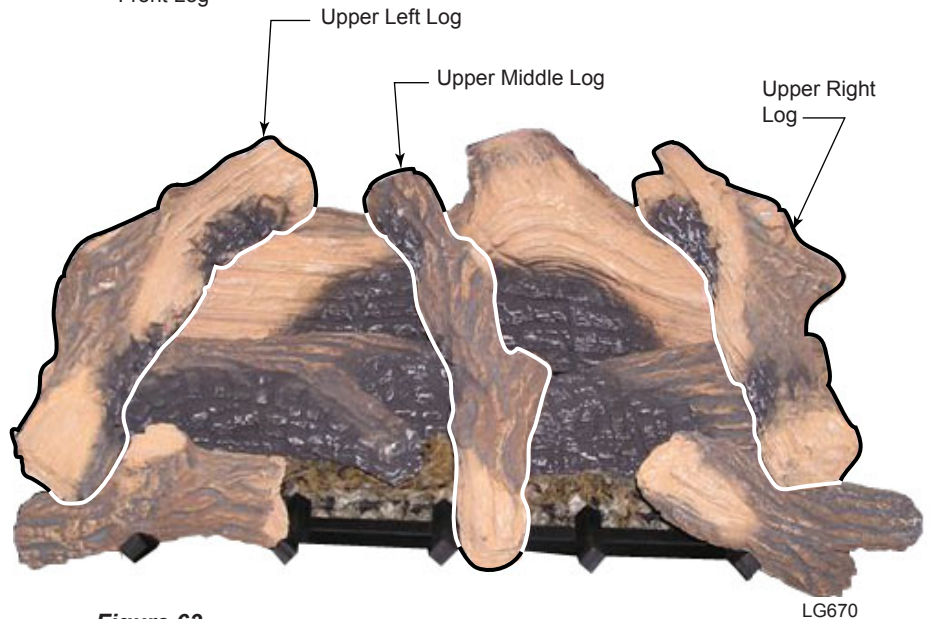

Figure 63 -
- Place the upper left log by matching the two protrusions on the rear and left middle logs with the notches on the bottom of the upper left log. *Figure 63*
- Place the upper middle log by matching the protrusions located at the middle of the rear log with the notch on the bottom of the log. Rest the front end of the log on the right side of the middle tong of the grate. *Figure 63*
- Place the upper right log by matching the two protrusions on the rear and right middle logs with the notches on the bottom of the upper right log. *Figure 63*